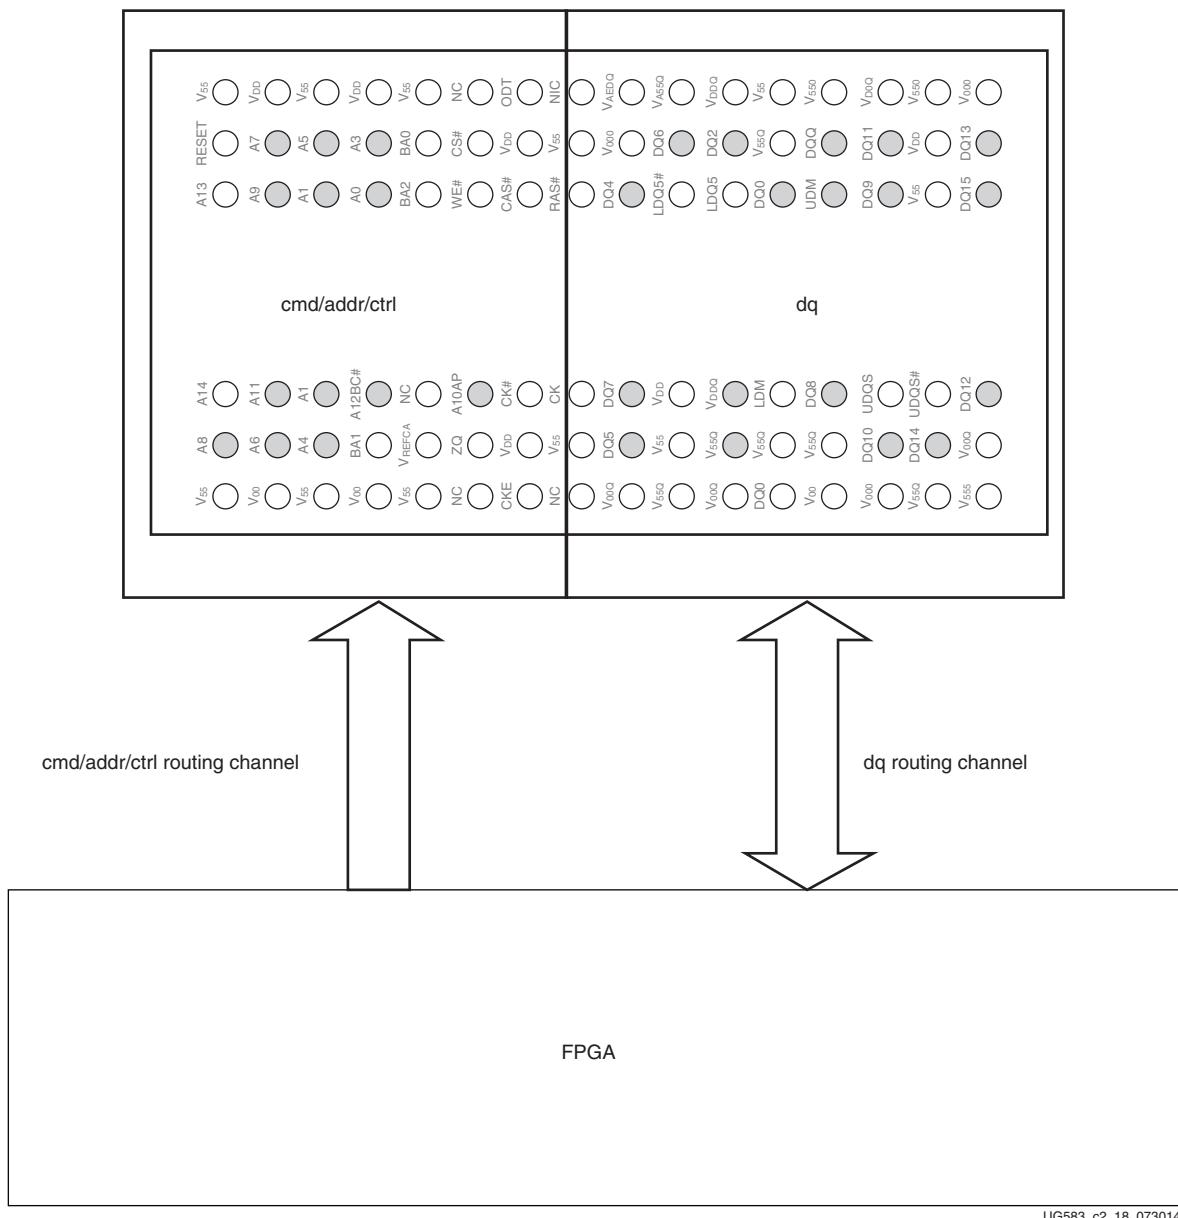

Figure A-7: Component Placement Recommendations for One Component
13. To optimize the signal routing, the recommendation for one component placement is shown in Figure A-7.